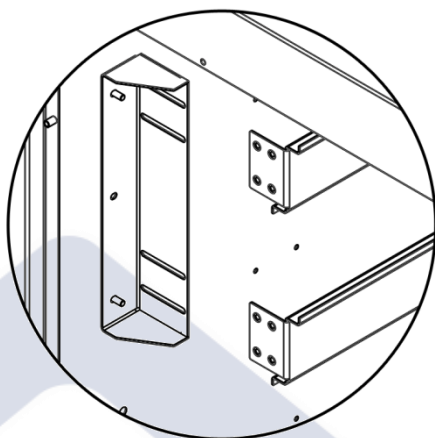

Figure 6
- To Raise: Loosen the screws and raise the interior bracket forwards and fasten to decrease the distance from the LCD screen and the window (Figure 6).